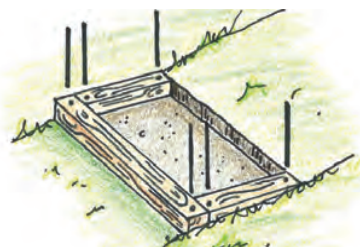

Figure 4
**STEP 4. Prepare materials.** Cut the timbers to the appropriate length. For each step, cut one riser timber as long as the step width and 2 timbers as long as the step depth for the side timbers (remember that each step should extend 6" past the next step's riser.) Drill  $\frac{1}{2}$ " diameter holes approximately 6" from the ends of each timber (Figure 4).
**STEP 5. Position timbers.** Position the timbers in the step and remove or add soil as needed to level them (Figure 4).
**STEP 6. Anchor timbers.** Drive the steel rebar through the drilled holes on the end of each timber and into the ground. Make sure the rebar is level with the timber surface or slightly recessed since the edges may be sharp (Figure 4).
**STEP 7. Dig and level inside step.** Shovel out the soil inside the step to create a surface roughly level with the bottom of the timbers. Additional soil can be removed to provide more area for infiltration if desired. Make sure to dispose of excavated soil in a place where it will not wash away (Figure 4).